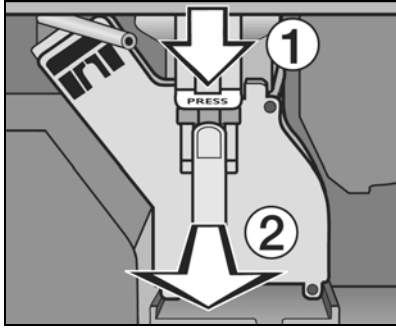

Figure 5-22: Brew Unit Removal for Cleaning
2. Grasp the brew unit by the handle and press the area marked PRESS. (Figure 5-22, Item 1).
3. Pull outward to remove the brew unit (Figure 5-22, Item 2).